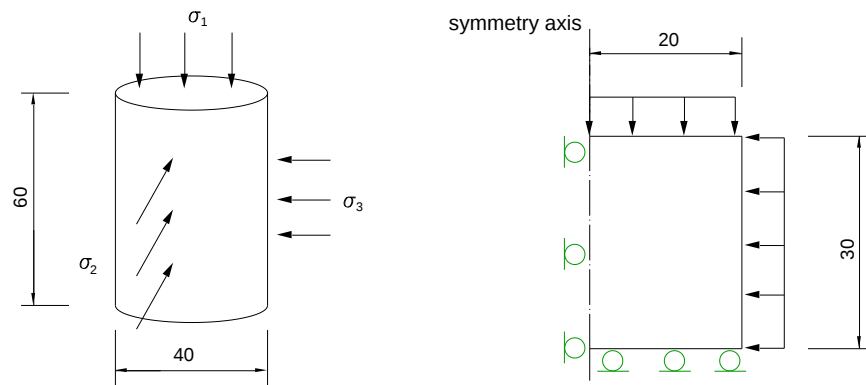

Figure 2.6-1: Simulation of CD tri-axial test using Duncan-Chang model
Conventional-drained (CD), tri-axial tests of loose and dense sand are simulated in example 6 and example 7. Duncan-Chang hyperbolic elastic model is applied to soil. The physical configuration of the sand sample is shown in the left image of Figure 2.6-1. The sand sample is a 40mm x 60mm cylinder subjected to uniform pressure σ_1 and σ_3 . Due to symmetry, a simplified axi-symmetric geometry can be used as shown the right image of Figure 2.6-1. Units used in this example are “N, mm, second”.